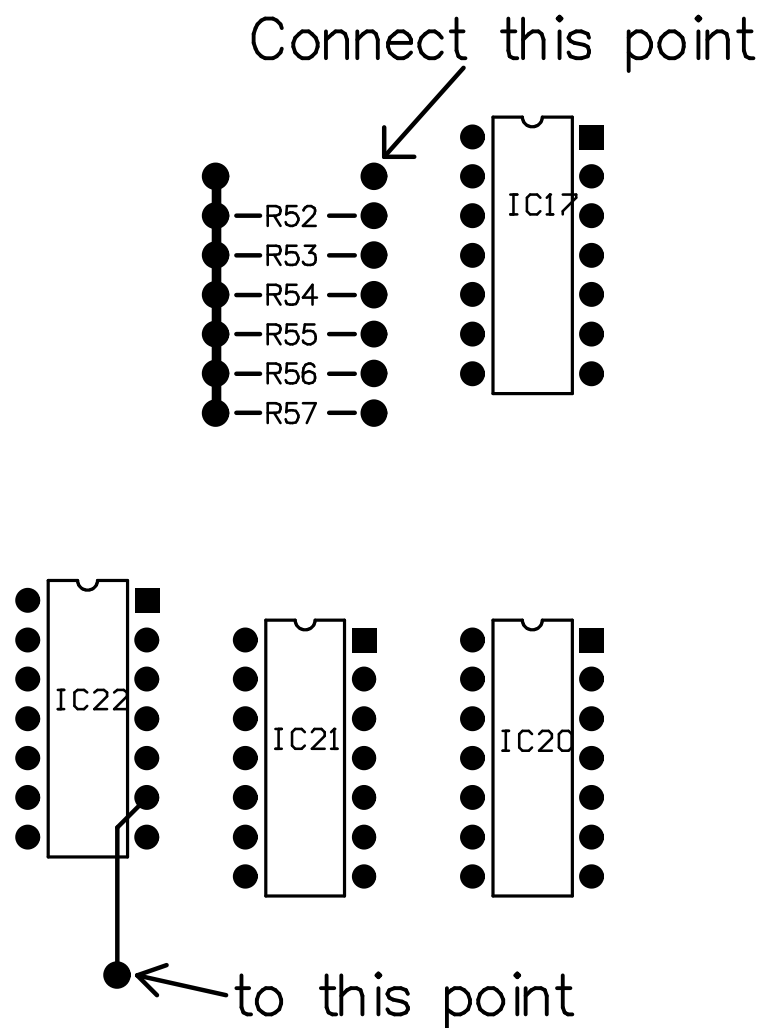

Figure 3
- o Locate the following parts on the INTERFACE BOARD: **IC17 and IC22**. IC 17-pin12 must be connected to IC 22-pin6. Locate IC17 - It is almost in the center of the interface board, below the DAC and to the right. If you view the Interface board from the bottom you will see a group of 10K resistors numbered R52 through R57. (See Figure 3) Notice two holes just above R52, one hole is connected to the left side of R52 and the other looks like it goes nowhere. (It is actually connected on the top side.) Solder the included wire to the hole on the right. Now find IC22 from the bottom side of the board. Solder the other end of this wire to the hole that is connected to pin 6 (approximately 1/4" below IC22). You can connect this wire on the top side of the interface board if you prefer.